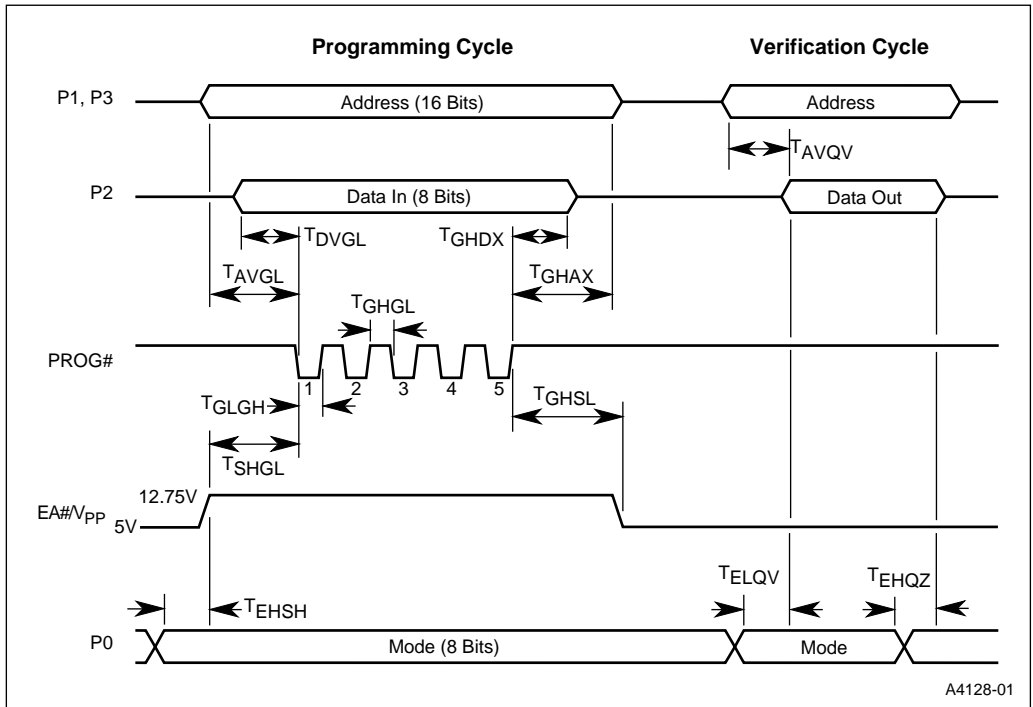

Figure 19. Timing for Programming and Verification of Nonvolatile Memory
Information in Figures 17 and 18 define the configuration bits. Figure 19 shows the waveforms for the programming and verification cycles, and Table 15 lists the timing specifications. The signature bytes of the 83C251SA/SB/SP/SQ ROM versions and the 87C251SA/SB/SP/SQ OTP versions are factory programmed. Table 16 lists the addresses and the contents of the signature bytes.
1. The PROG# pulse waveform is shown in Figure 19.